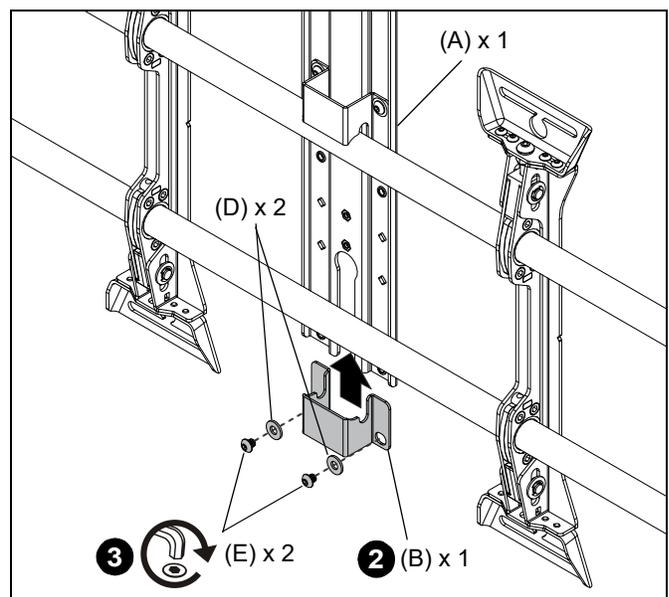

Figure 12
2. Slide edge rail bracket (B) underneath lower rail on wall mount, lining up holes on rail bracket with holes in upright assembly (A). (See Figure 12)
3. Reinstall two 1/4-20 x 1/4" button head cap screws (E) and two small washers (D) to secure edge rail bracket (B) to upright assembly (A). (See Figure 12)